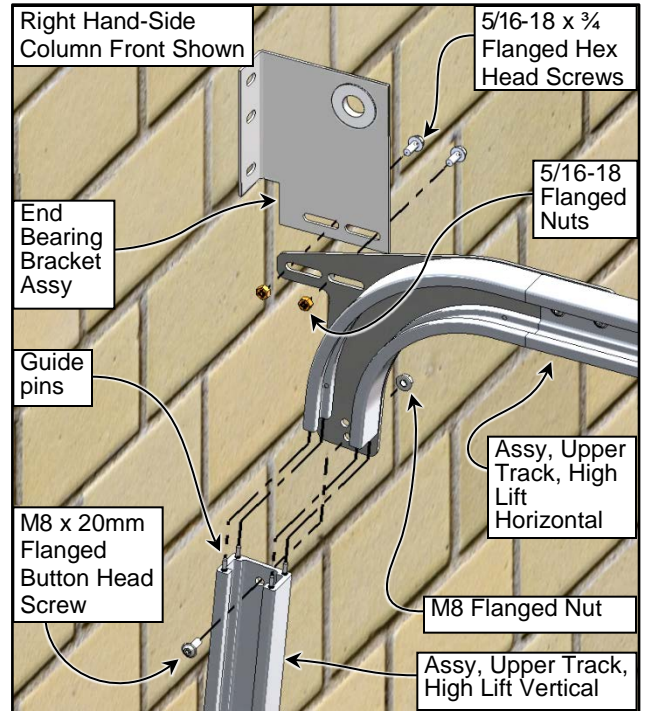
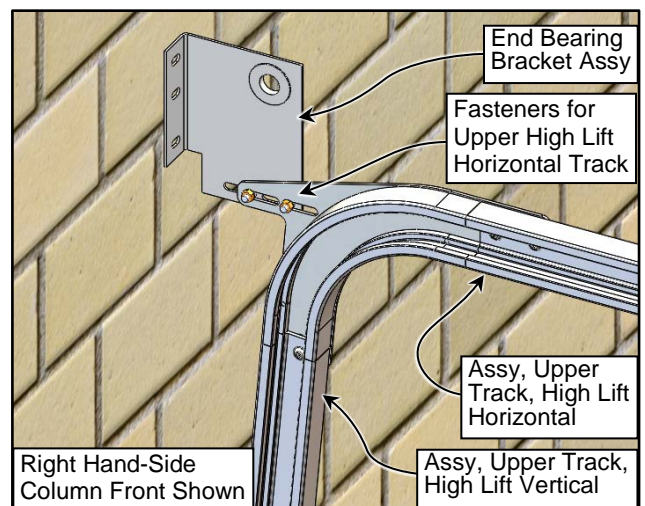

Figure 51
Figure 52
5. Identify, locate, and orient the High Lift Upper Horizontal Track Assembly for each side. This includes the upper track transition plate sub-assembly, horizontal section track, locating pins, and fasteners. (See Figure 51 & Figure 52)
6. Install the High Lift Upper Horizontal Track Assemblies on both Upper Track High Lift Vertical Assemblies as shown. (See Figure 51 & Figure 52)